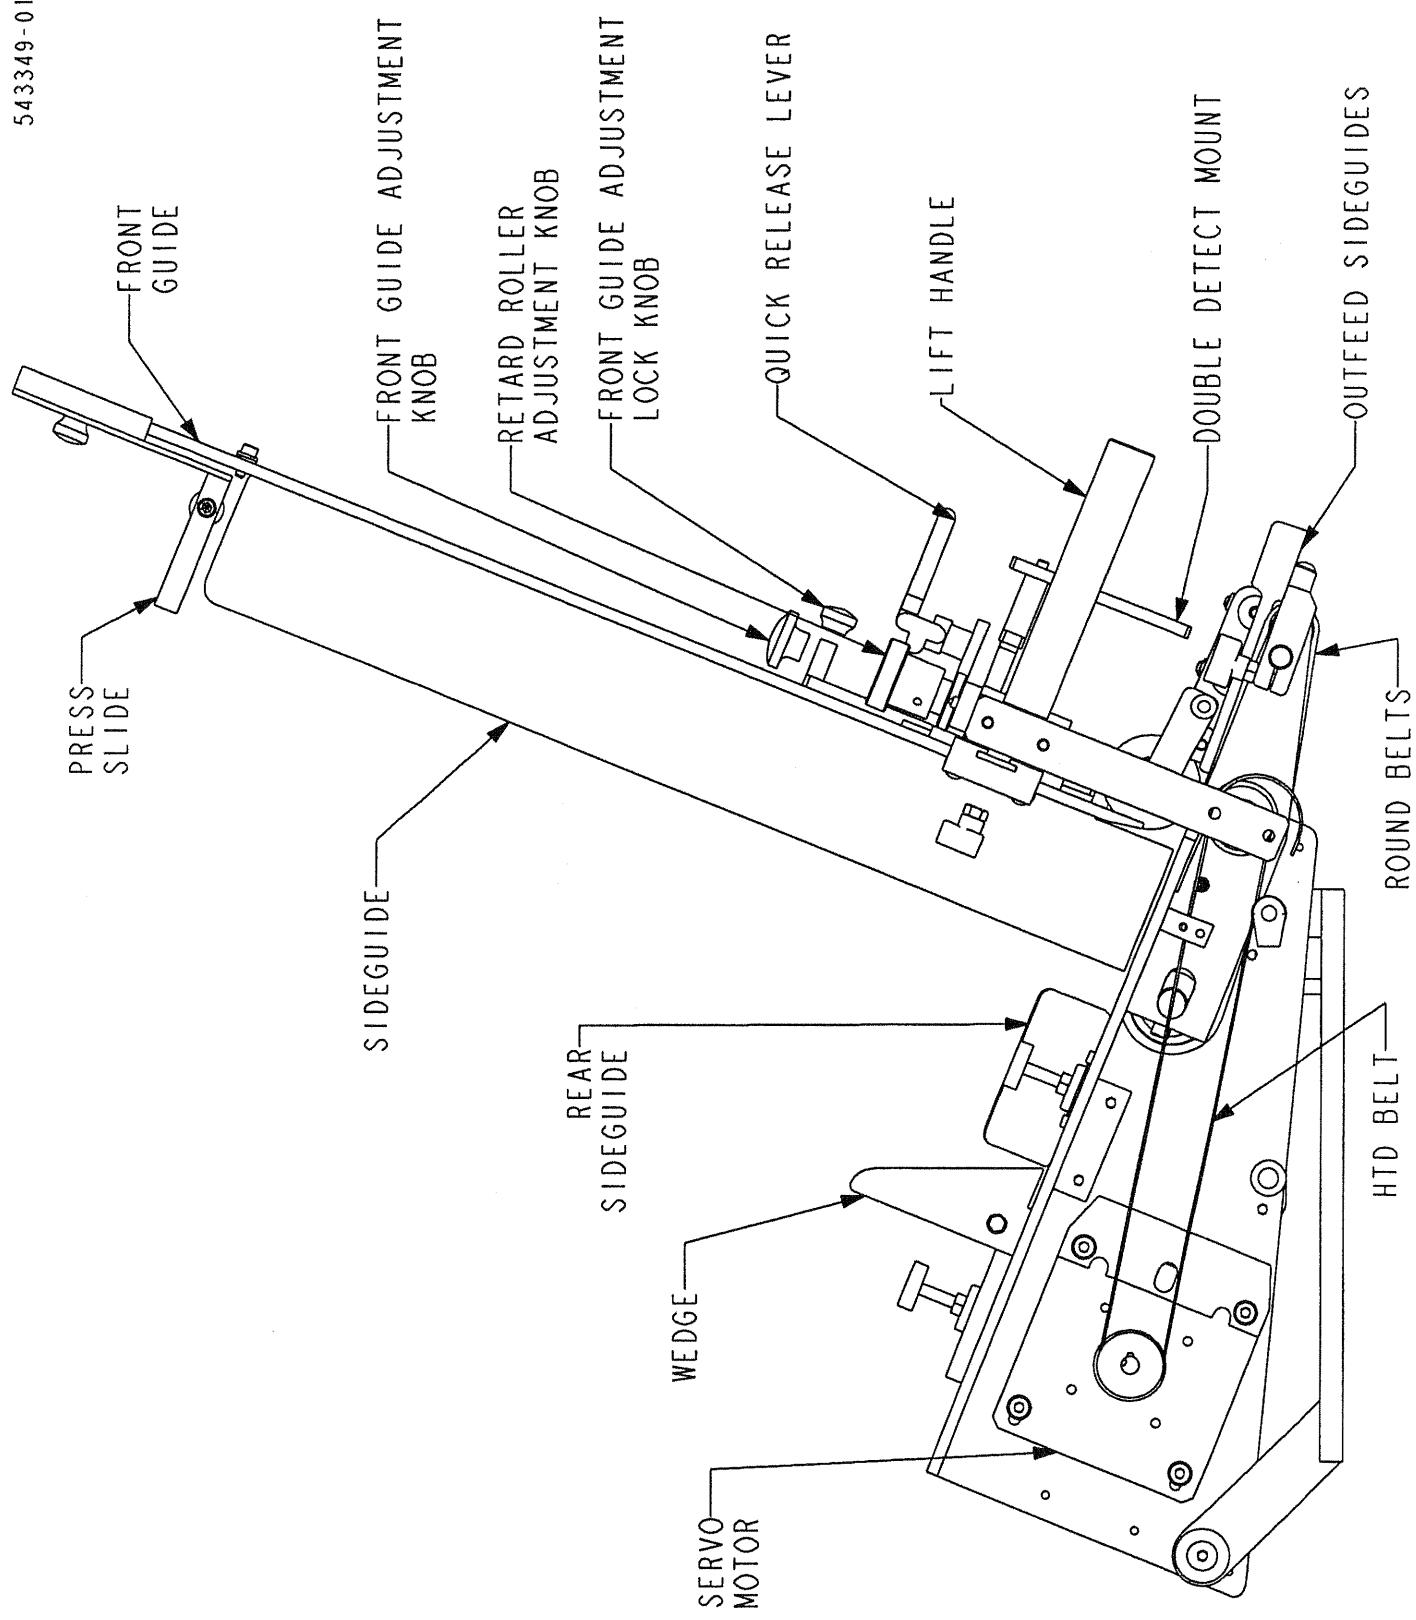

FIGURE 4.0
4.1.2 Feeder Component Description (see Figure 4.0)
4.2.4 Sensor Component Description (see Figure 4.0)